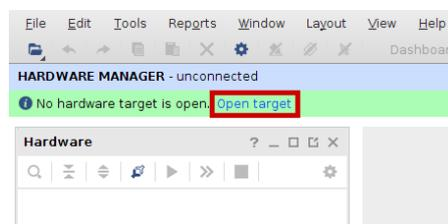

Figure 112. Open target
- e. The Hardware Manager opens and informs you that no hardware target is open. Open the target by clicking on *Open target – Auto connect* (Figure 112).